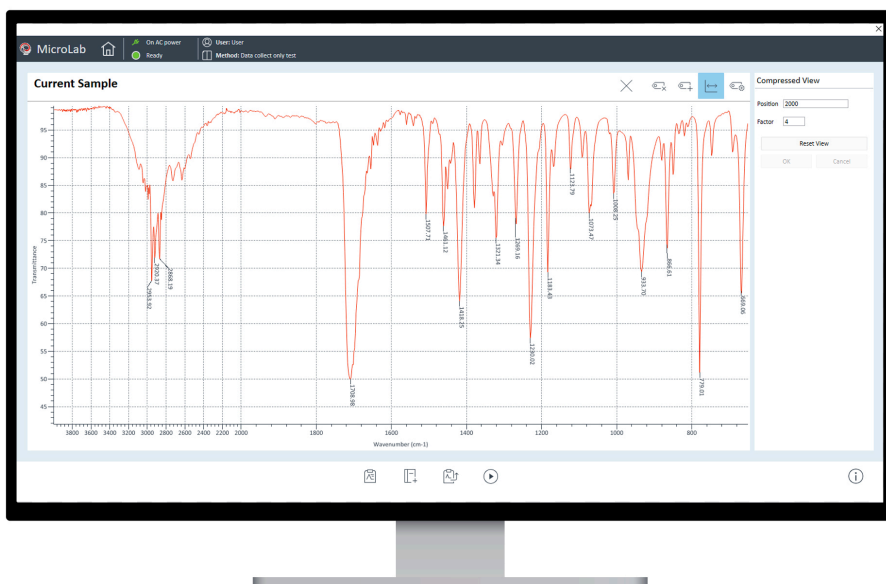

Figure 6. MicroLab software allows operators to collect, review, and re-analyze infrared spectra of samples, along with a reporting feature.
- Bands can be labeled for reporting or comparison against literature values (Figure 6)